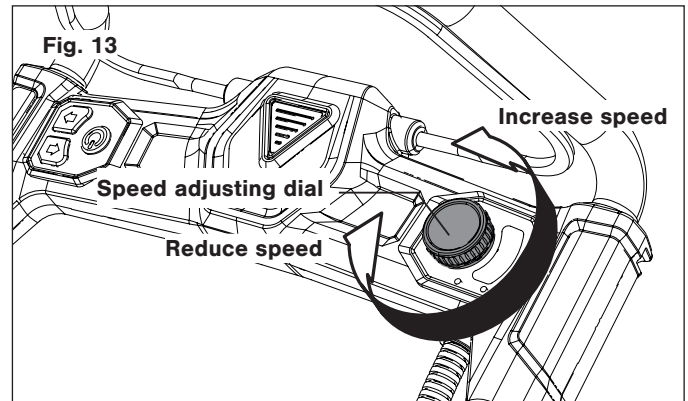

Fig. 13
dial counterclockwise with the switch bar level squeezed (Fig. 13).
2. To reduce the auger speed, scroll the speed adjustable dial clockwise with the switch bar lever squeezed (Fig. 13).